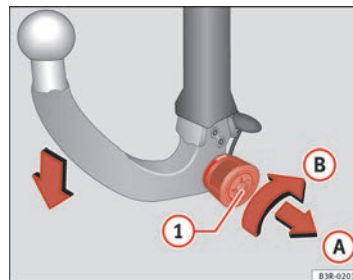

Fig. 161 Removable towing bracket: Removing the ball joint
- Insert the key in the lock **1** ⇒ fig. 161 on the knob.